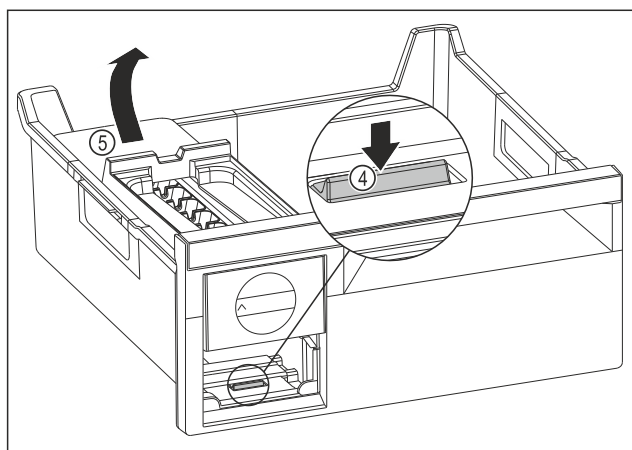

Fig. 131
- Removing the EasyTwist-Ice body: Use your finger to push the tab Fig. 131 (4) down and use your other hand to lift the EasyTwist-Ice body Fig. 131 (5) from behind at the same time.